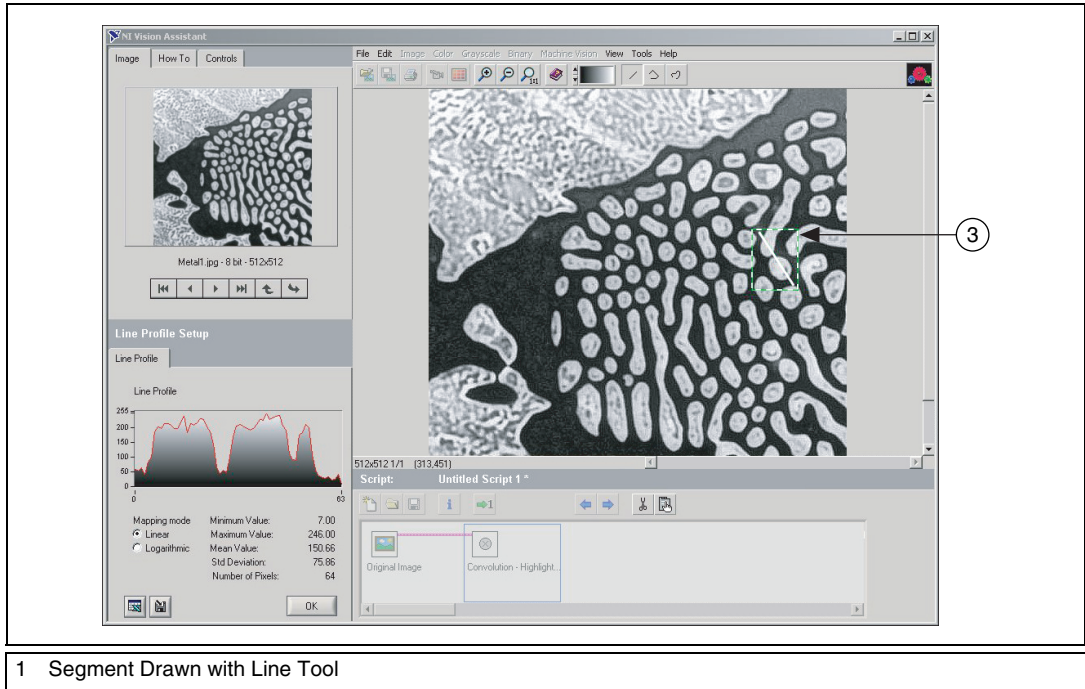

Figure 3-2. Using a Line Profile to Examine Particle Edges
2. Click and drag to draw a short segment across a particle to examine the line profile of the particle and its border, as shown in Figure 3-2. The line profile indicates more defined edges.